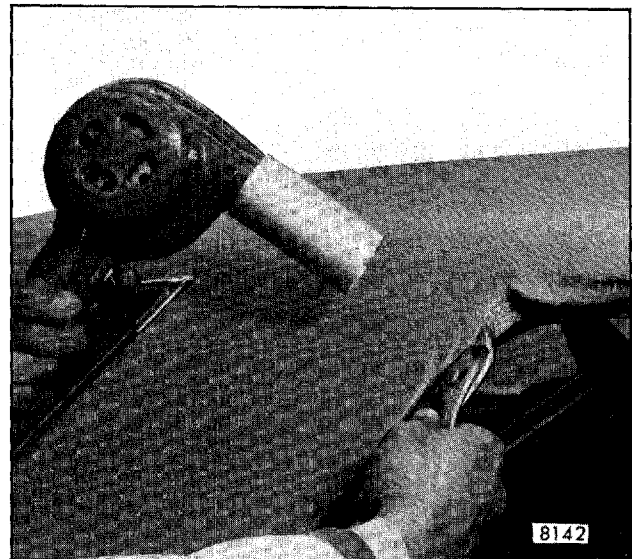

Fig. 8-42-Loosening Edge of Fabric Roof Cover
5. Apply heat to edges of cover to aid loosening. Heat can be applied with a hot air gun held about 1" from the cover and moved in a circular motion (Fig. 8-42). Heat lamps can also be used if held a minimum of 18" from the cover.
6. Using a pair of pliers carefully loosen edges of roof cover as shown in Figure 8-42.